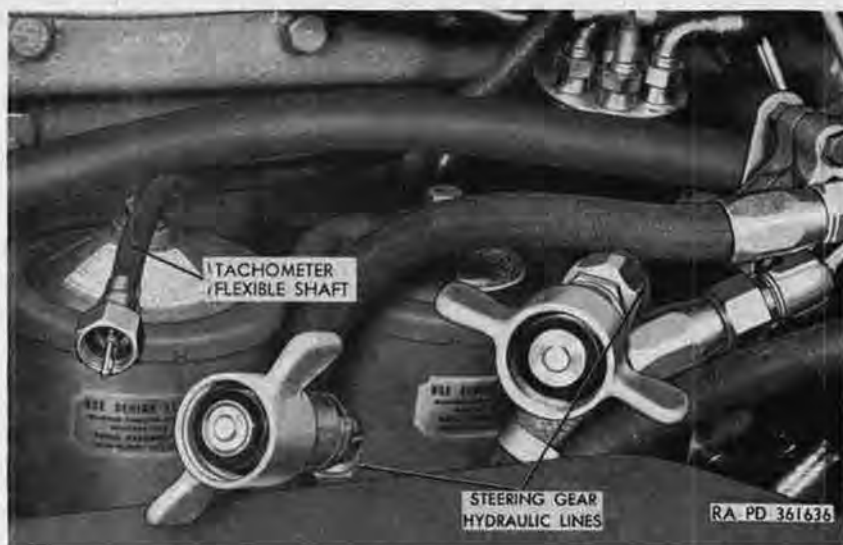

Figure 151. Steering gear hydraulic lines and tachometer drive cable (disconnected) at left side of engine.
- (5) *Connect steering gear hydraulic lines.* Connect steering gear hydraulic lines (fig. 151) to inlet and outlet connections at steering gear hydraulic pump (fig. 130), and tighten self-sealing couplings (fig. 135).
- (8) *Connect tachometer flexible shaft.* Insert end of tachometer flexible shaft (fig. 151) in tachometer sending unit (fig. 135) at front of distributor drive housing and tighten connector.